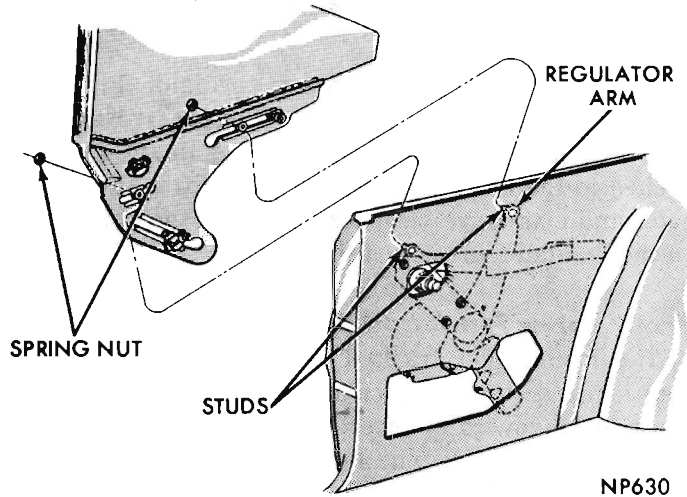

Fig. 43—Quarter Glass Replacement—Hardtop
- (1) With glass in mid-position, remove spring nuts from regulator arm studs (Fig. 43) and studs from rollers.